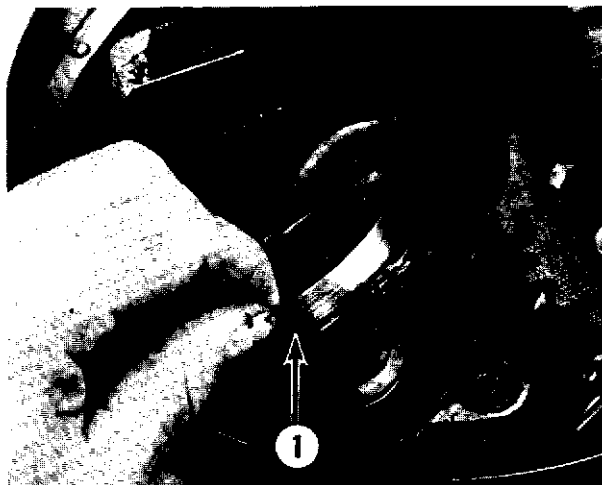
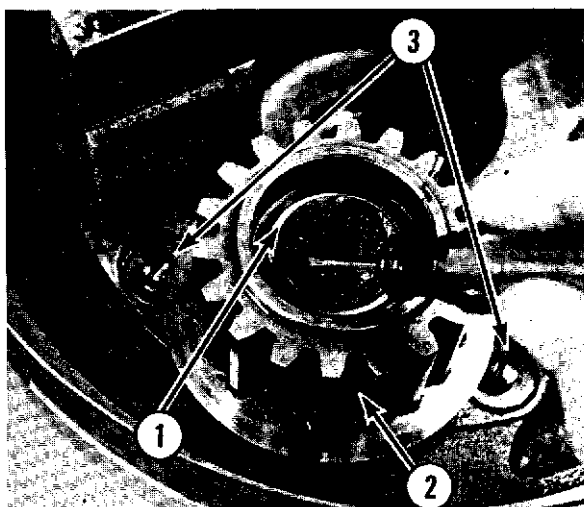

Fig. 10-9
Fig. 10-8
C. Remove the retaining ring (1, Fig. 10-8) and the pinion (2, Fig. 10-8) and key.
D. Remove the two machine screws (3, Fig. 10-8) and lift out the planetary oil baffle (1, Fig. 10-9).